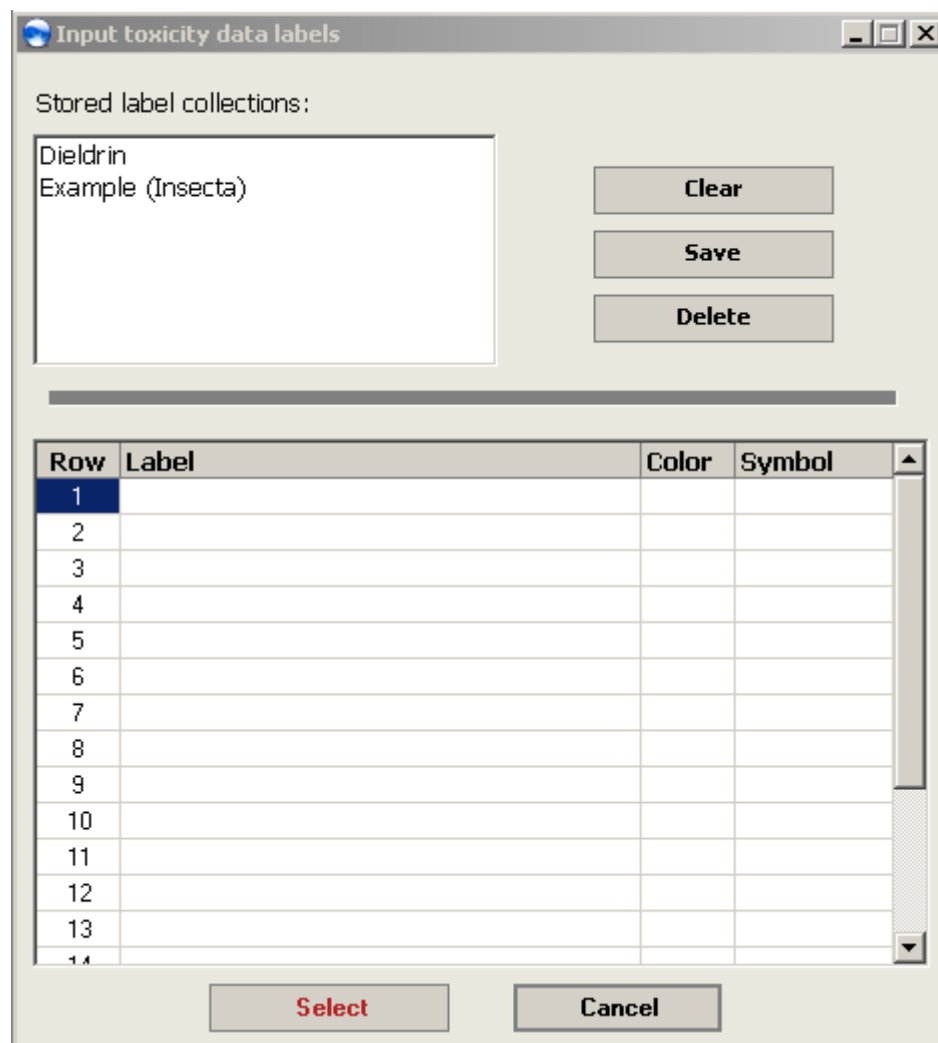

Figure 19. The **Input toxicity data labels** box.
- Click on **T**ools, **L**abels in the Menu bar and the **Input toxicity data labels** dialog box shown in Figure 19 will appear:
- Click on **T**ools, **L**abels in the menu bar and the **Input toxicity data labels** dialog box shown in Figure 19 will appear.